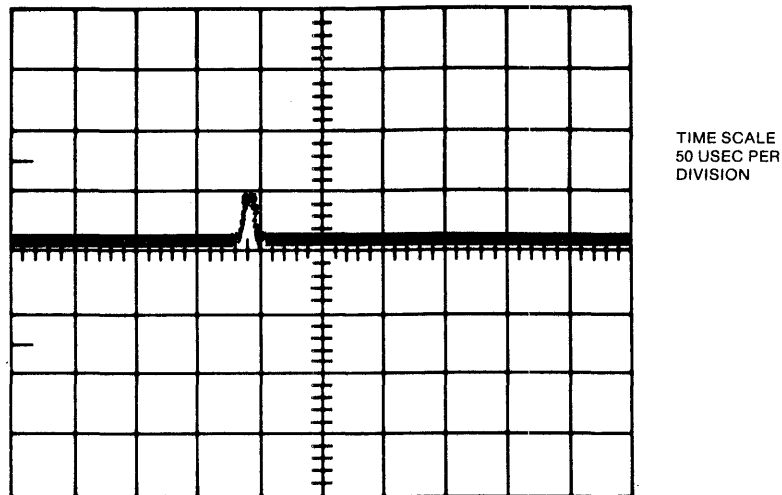

Figure 4-5. Index-to-Data Burst
4. Ensure that the index-to-data burst occurs at 200 microseconds \pm 100 microseconds from the leading edge of the index pulse (see figure 4-5).